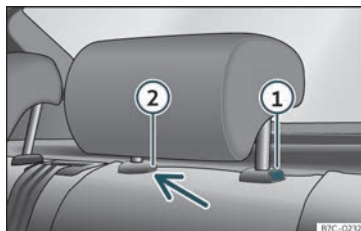

Fig. 105 Rear headrest: removal.
• Press button»» Fig. 105 ①, while simultaneously pressing on the security hole ② with a flat screwdriver a maximum of 5 mm wide, and remove the headrest.